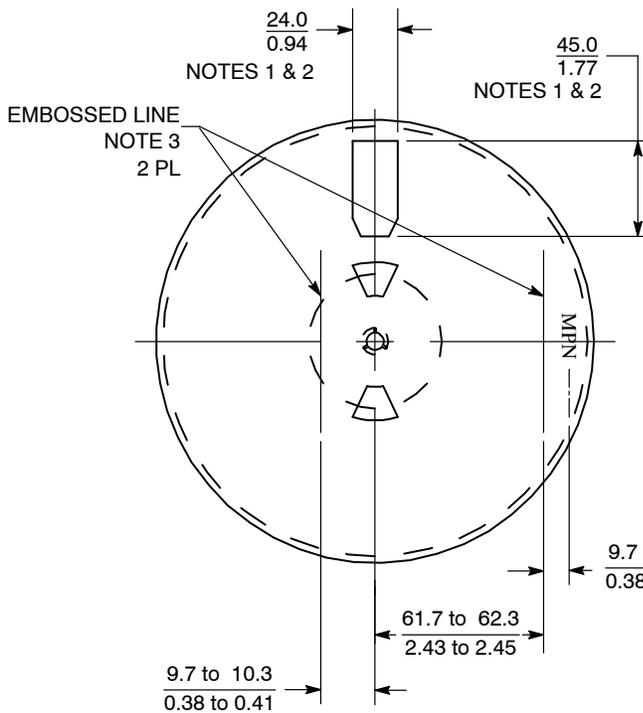

Figure 40. Front View of 178 mm (7.0 in) Reel
- If there are any flange openings on the front side of the 178 mm (7.00 in) reel they must be designed in locations so that two of the 41.3 mm (1.65 in) ON Semiconductor barcode labels can be applied parallel to each other as in Figure 40.
- Flange opening on the front and the back of the reel are a supplier option but must meet all of the requirements in Note 1. The preferred size for the 176 mm (7.0 in) reel is shown in Figure 40.
- The embossed lines on the reel are an option. If the lines are used they must be located as in Figure 40 and 41. They must be a minimum 38 mm (1.50 in) long. The thickness is a manufacturer's option and not to be used for inspection criteria.